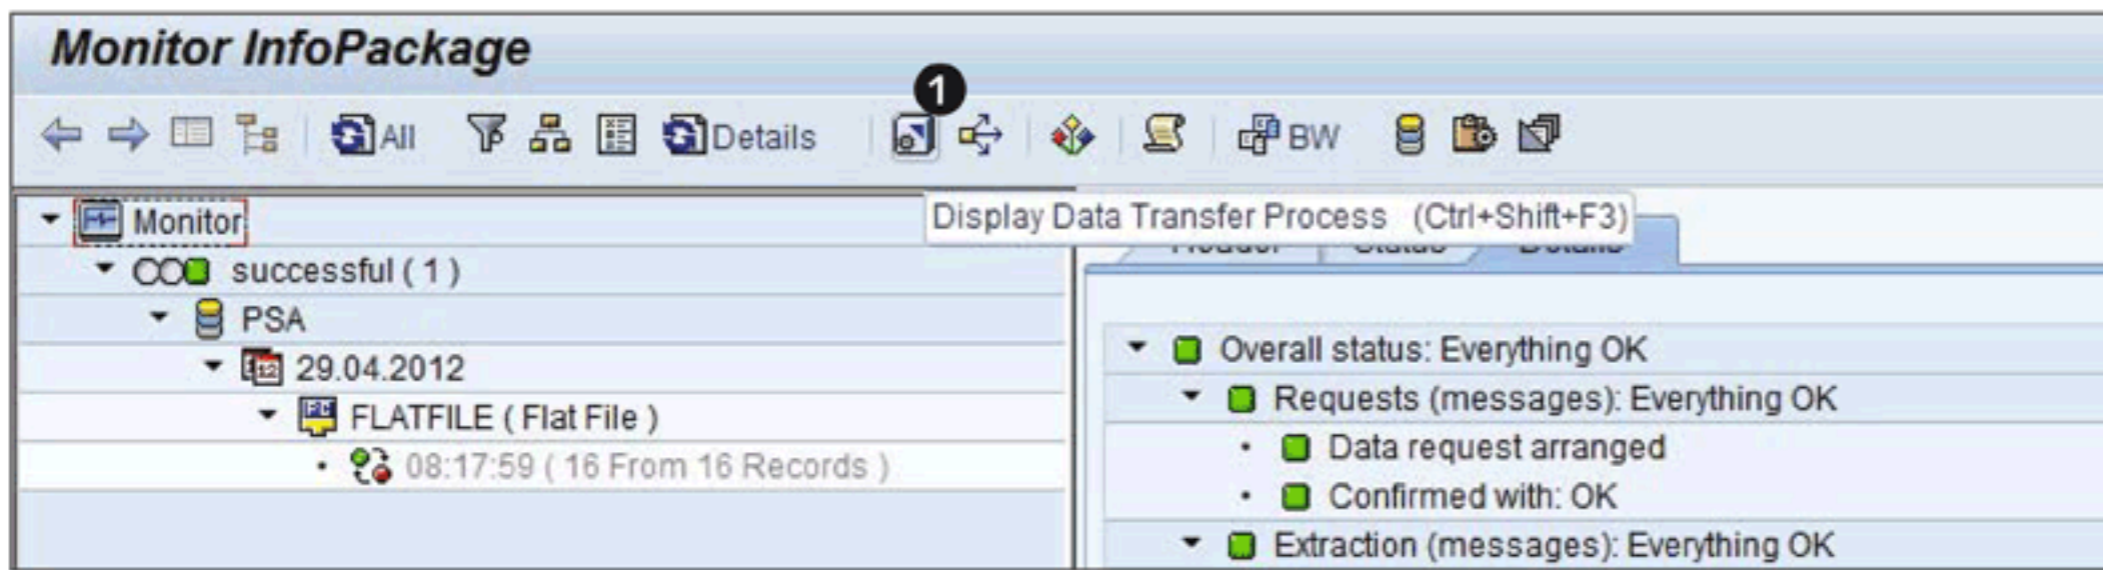

Figure 7.43 Starting DTP
At this point, you have executed the InfoPackage and loaded the master data from the flat file to the PSA. Now you need to execute the DTP. The job of DTP is to read the data from PSA and pass it to the data target (InfoObject BW_CUST), transforming it in the process. You can directly jump to the associated DTP from the monitor screen by clicking on the DISPLAY DTP icon shown in ❶ of Figure 7.43.